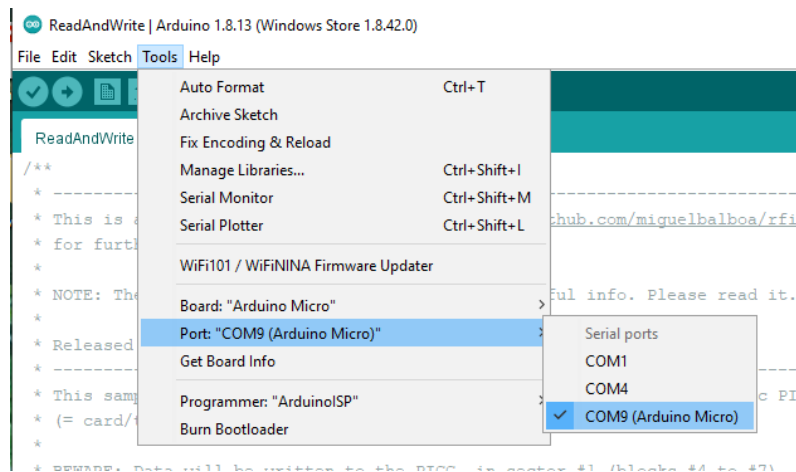

Fig. 6. Selection of communication Port
- **Port:** Select the proper communication port; Com XX (Arduino Micro) or (Arduino Mega) [Your Port number may be different from the example shown in Fig. 6]